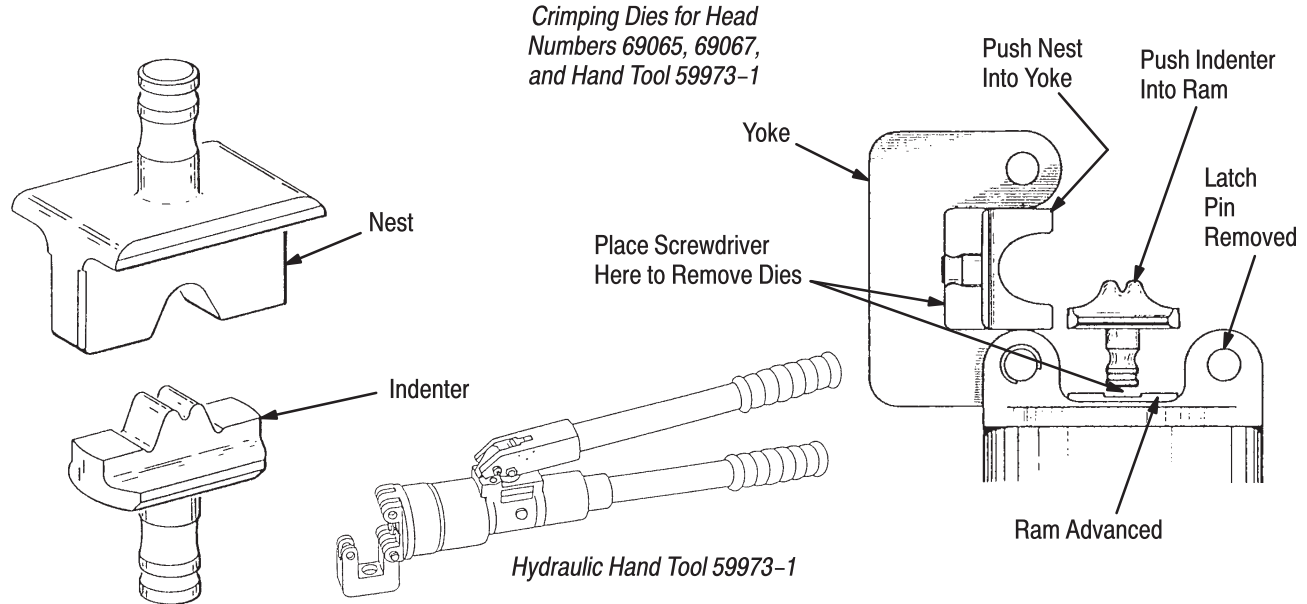

Figure 1
2. DESCRIPTION (Figure 1)
3. Activate power unit to advance ram to approximate position shown in Figure 1.